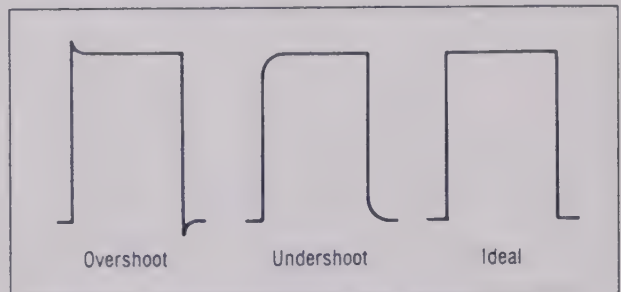

Fig. 3. Adjusting 1 kHz Square Wave Characteristics
3. Adjust trimmer capacitor VC102 [VC202] (1/10 PHASE) for a square-wave that is an ideal waveform. (See Fig 3 for Square Wave Characteristics)